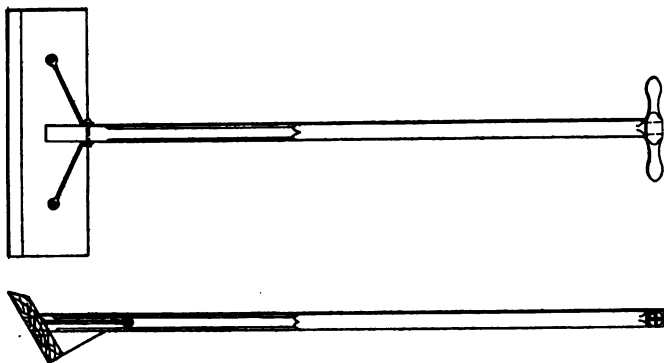

FIG. 172.—Snow Shovel.
**Shovels.** The snow shovel shown in fig. 172 is of simple construction, strong, durable and is